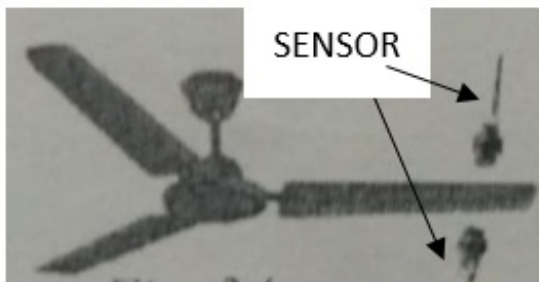

Fig. 1e
- 1) Define 'Latching' in PLC operation and about the two types of Latch operations. (3)
- B) Advantages of PLC over conventional Relay operation. (Minimum five points). (5)
- C) Explaining the functions of the following blocks: a) CPU b) I/O Modules (4)
- D) Design ladder diagram for XNOR gate and mention any four companies who manufacture PLCs. (4)
- E) Design a ladder logic diagram to calculate the angular velocity (rpm) of the ceiling fan with the help of optical sensor as shown in Fig 1e. (Hint: use TON, two Up counters, Multiplication function block) (4)